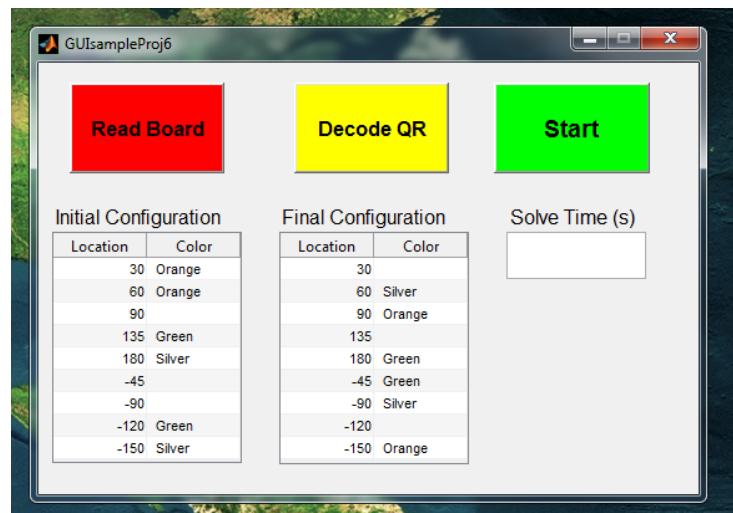

Figure 1: Sample GUI panel
- A GUI must be available which displays the initial configuration of your game set up and the final configuration as specified by the user. The GUI shown in Figure 1 is just an example. The GUI will be graded based on design, relevant information, and usability. The Solving Time must begin the moment “Start” is clicked. An example GUI is shown below in Figure 1. Note that the “Decode QR Code” button is not necessary for this project since we will not be using them. You will have to provide an option for the user to pick a location to place the X/O or Red/Yellow coin, depending on your project.